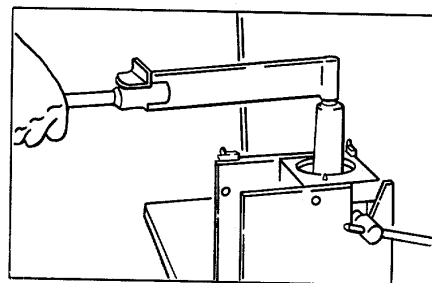

Figure 41. Tightening Injector Nut With Torque Wrench and Tool J 4983-01
9. Use socket J 4983-01 and a torque wrench to tighten the injector nut to 75-85 lb ft (102-115 Nm) torque (Fig. 41).